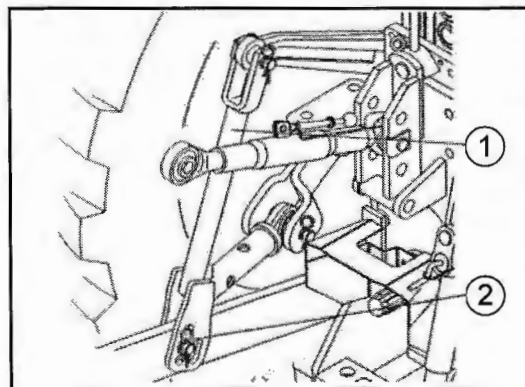

Fig. 23-4 - Left Side Lift Rod
Adjust the length of the lift rod (1) by one of three holes on the attachment bracket (2). Select the most suitable hole so the implement can be set at its correct working position. (See Fig. 23-4).